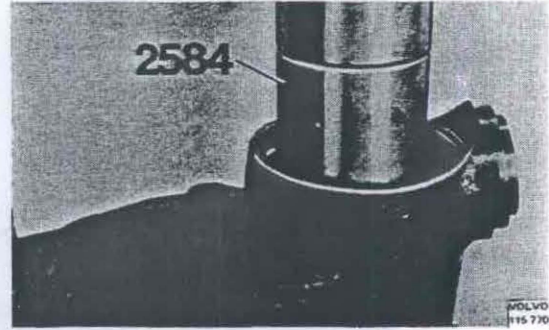

Fig. 46-125. Pressing in the gear wheel
2. Press the gear wheel into the wheel carrier housing using 2584, Fig. 46-125. Fit the circlip.